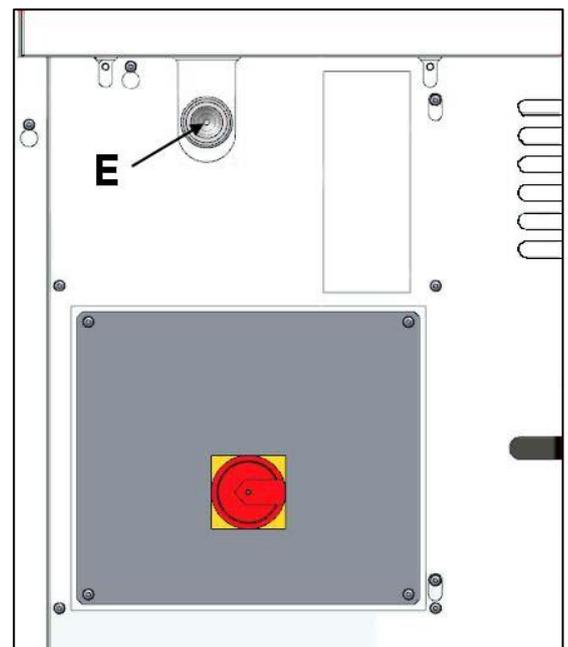

Fig. 5.3
- Insert the electric cable inside the dryer through the hole (Fig. 5.3/E).